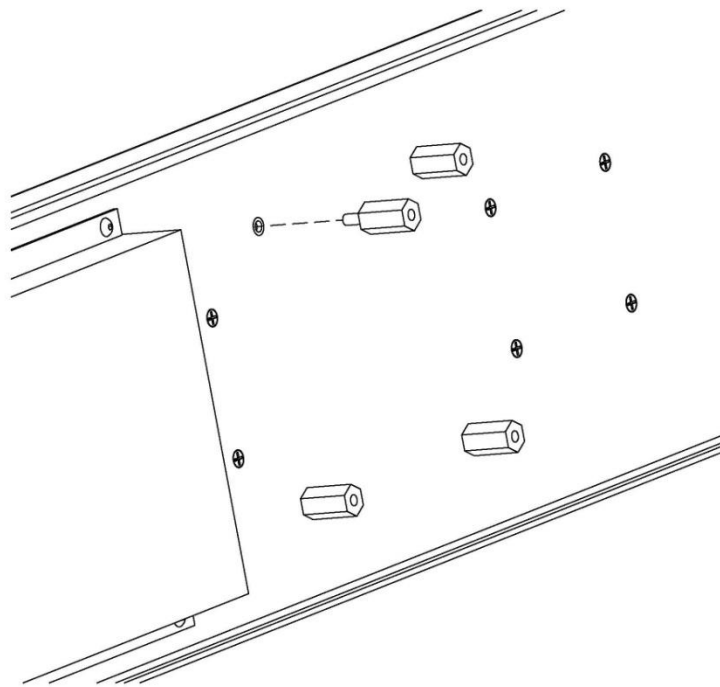

Figure 6 - View of VESA mount standoffs
- X2, M2, and M4 displays accept a 100mm VESA mount. Note that the display can be damaged by inserting a VESA mounting screw that is too long. The best way to avoid damage is to install the four supplied screw-in standoffs (see Figure 6 – View of VESA mount standoffs) and then screw the VESA mount into the standoffs, or compare the length of your VESA mount screws to the length of the screw threads on the standoffs. Do not insert a screw that has a greater thread length.
The best way to avoid damage is to install the four supplied screw-in standoffs (see Figure 6 - View of VESA mount standoffs) and then screw the VESA mount into the standoffs, or compare the length of your VESA mount screws to the length of the screw threads on the standoffs.